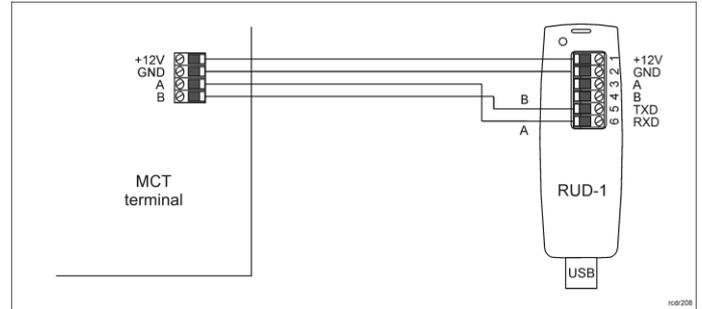

Fig. 2 Connection of panel to RUD-1 interface (firmware update)
The firmware of device can be changed to newer or older version. The update requires connection to computer with RUD-1 interface (fig. 2) and starting RogerVDM software. The latest firmware file is available at www.roger.pl.
1. Connect the device to RUD-1 interface (fig. 2) and connect the RUD-1 to computer's USB port.